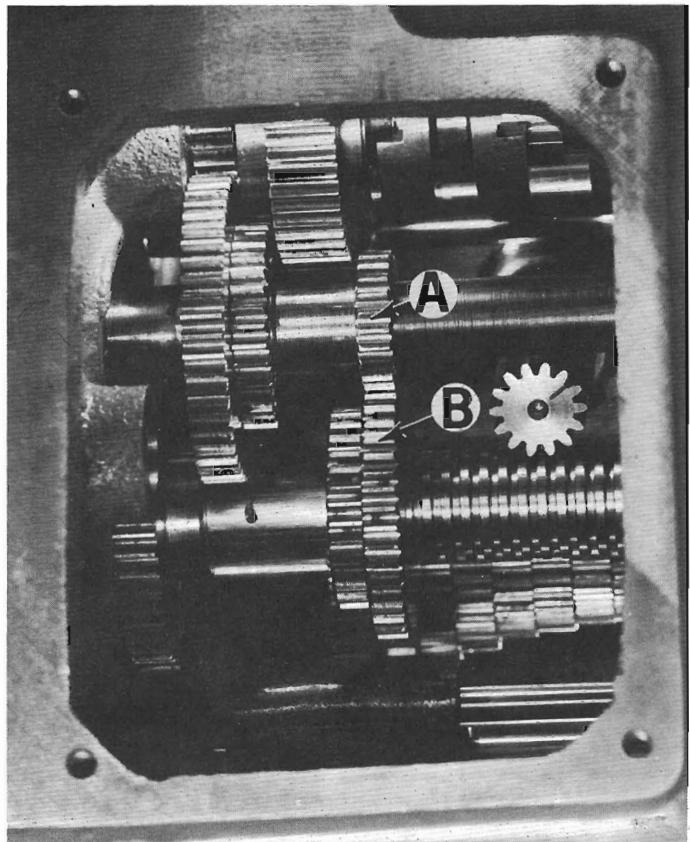

Figure 45 — Gear Position When "Three Change" Handle Is In No. 3 Position
- For proper operation gears "A" and "B", Figure 45, must be in mesh when "Three Change" handle is in No. 3 position. If this is not the case, loosen set screw "A", Figure 37, position gears "A" and "B", Figure 45, as shown. With plunger "F", Figure 37, in notched position hold against pinion and knob and tighten set screw "A", Figure 37.